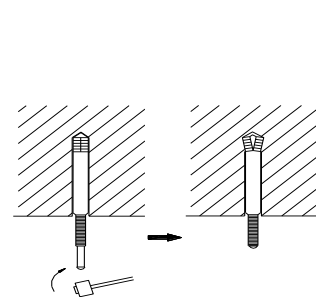

Figure 3-1-42
(3) Insert the anchor bolts into the drilled holes, and drive the pins completely into the anchor bolts with a hammer (Figure 3-1-42).